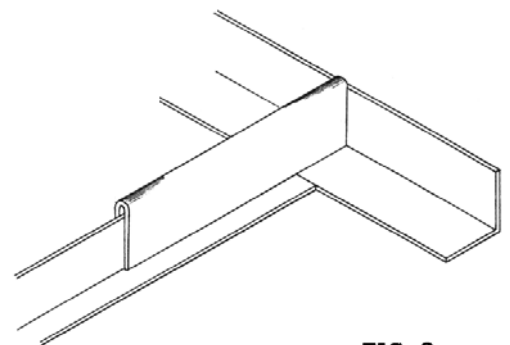

FIG. 2
2. Cut Cross Tees to length for the border area and install Splice Clips at the wall end to rest on top of Wall Angle. **FIG. 2**